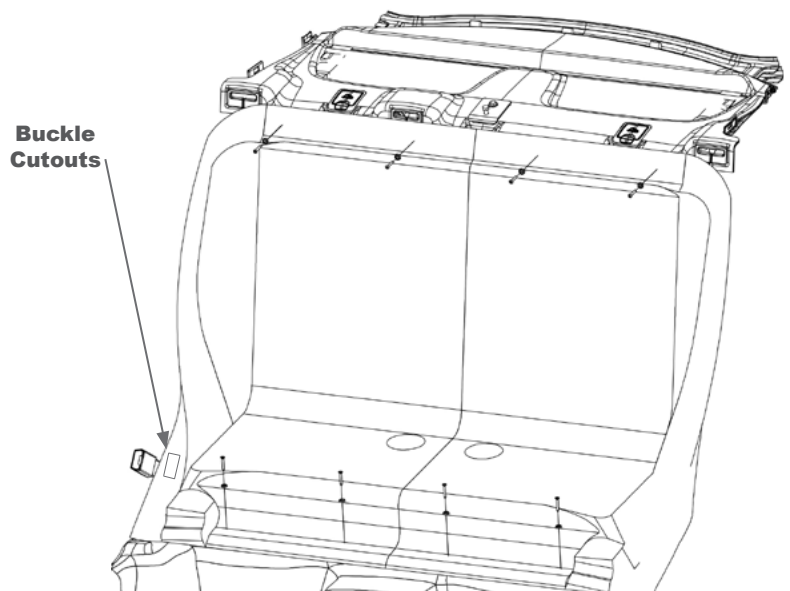

Fig. 8
- I. After the seat has been cutout, then place the seat inside the vehicle. Place the seat onto rear seat area while feeding the lower buckle through the cutout in the seat. Push the seat all the way toward the back of the vehicle and all the way up against the rear deck to the proper position. With the seat held in position, install the top four (3X77) screws and (3X78) finish washers through the seat and into the vehicle sheet metal. Install the four lower screws and finish washers to secure the bottom of the seat as shown in Figure 8.
- C. After the seat belts have been installed, then buckles can be attached to the partition. We recommend drilling holes in the B-pillar side sheet metal panel and attaching as shown in Figure 8. This buckle is used to hold the seat belts open for loading the prisoner.